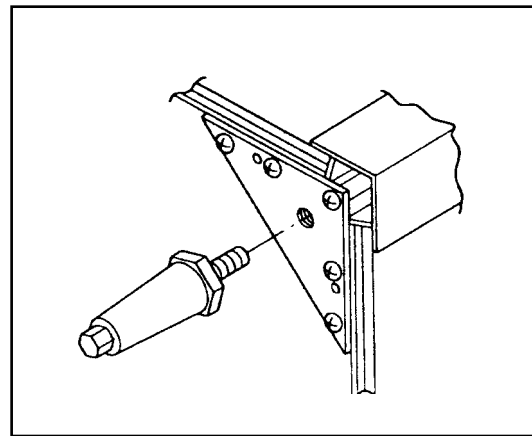
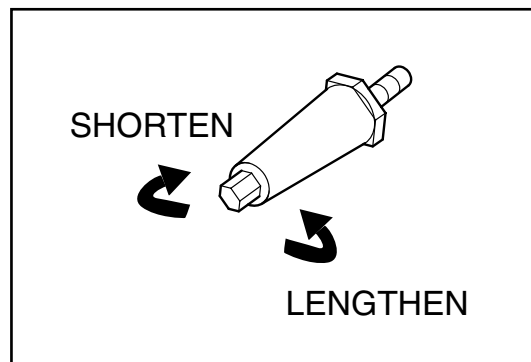

Figure 7. Installation of Adjustable Legs.
Figure 8. Adjustable Legs.
To install the 4" (10 cm) appliance legs, place the unit on its side. Be sure to secure all glass with tape and drain water if filled. Punch out holes in corners of bottom cover. Secure bracket with four (4) self-drilling screws (supplied), using a power driver. Thread the 4" (10 cm) legs into the holes provided. **See Figure 7.** After all the legs are tightened, return the unit to its upright position. If the unit is not level or rocks, turn the adjustable tip of the appropriate leg to correct the condition. **See Figure 8.**